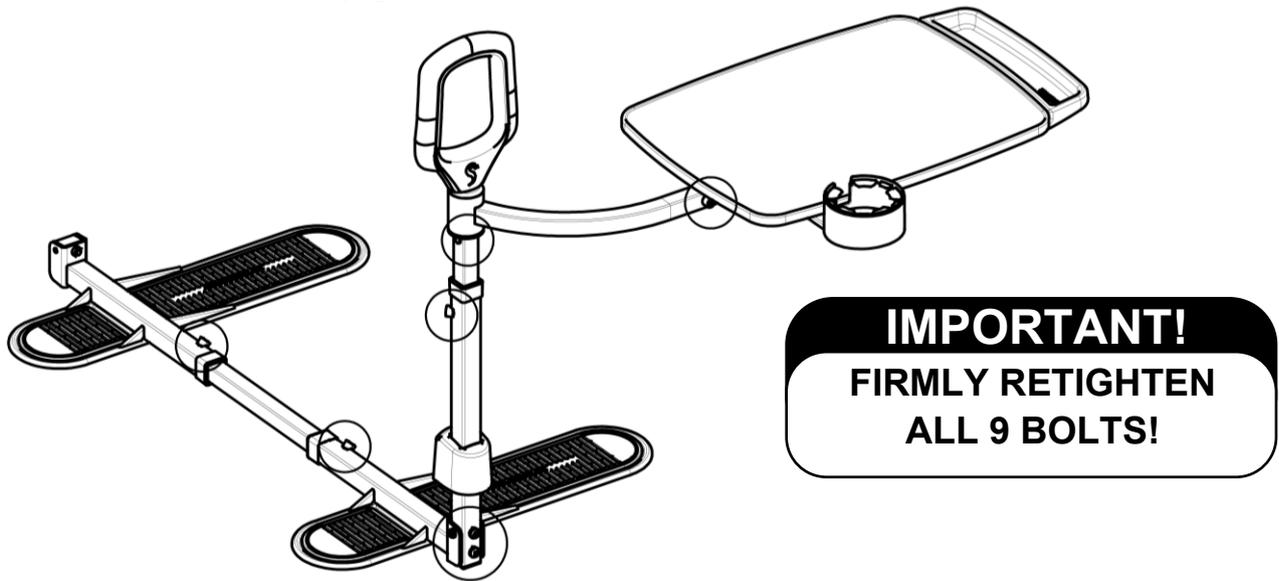

FIGURE 17
17. Ensure all 9 Bolts are firmly tightened as shown in *FIGURE 17*.